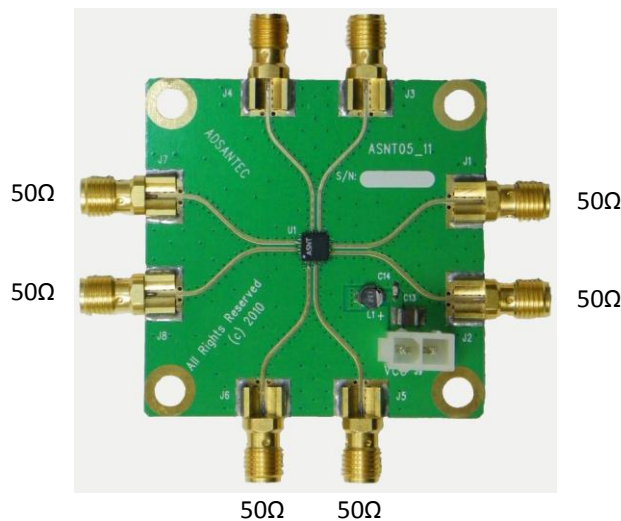

Fig. 5. Impedance of I/O Connectors
- Measure the resistance of all connector pins to VCC, including the power supply, while making sure the board is grounded. All I/O ports should measure 50Ohms while on the power supply connector, VCC should be a short, and GND should be high impedance. Fig. 5 shows the resistance values of the described I/O connectors.